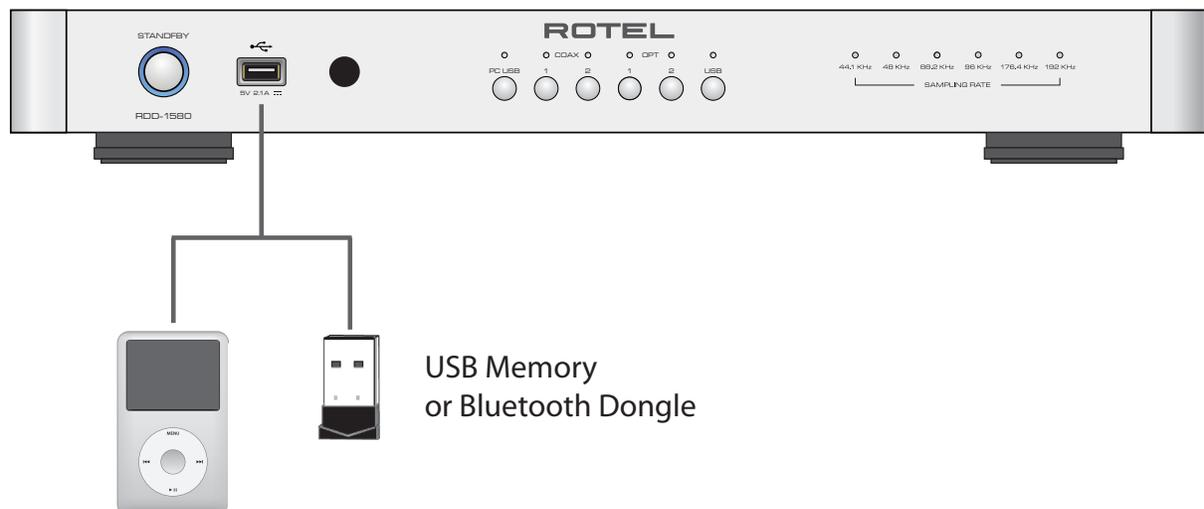

**Figure 4:** Balanced (XLR) Outputs and 12V Trigger IN Connections
- Figure 4: Balanced (XLR) Outputs and 12V Trigger IN Connections 5